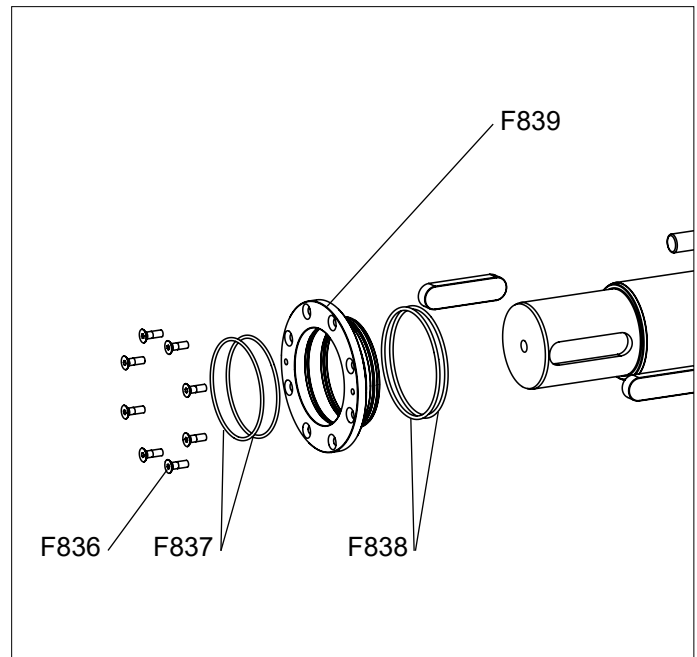

Fig. 2B
4. Remove the eight, Upper O-ring Retainer Screws (F836) from the Upper O-ring Retainer (F839) using an allen wrench. (See Fig. 2B)